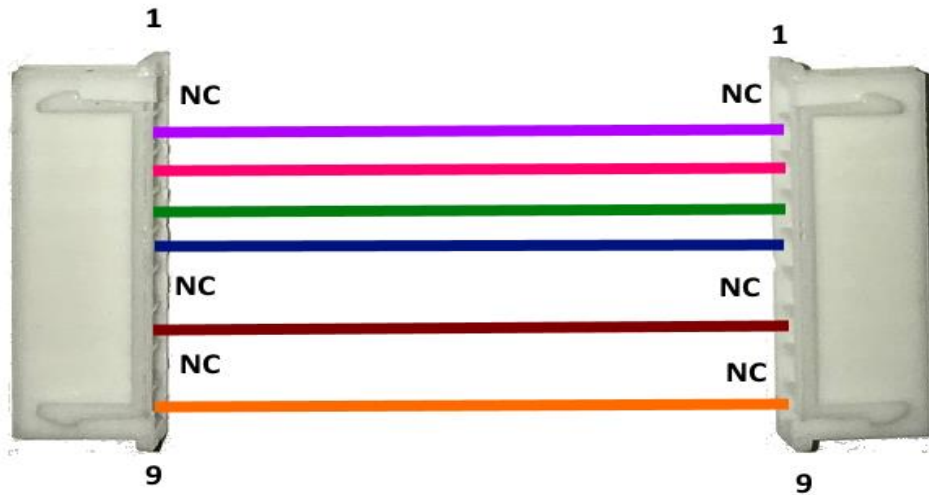

Figure 4 9-pin female to female JST wiring
10. The 9 pin female to female JST connector should connect straight from SD DDP PCB to the ADAM DDP pins (J10 for DDP drive 1 or J12 for DDP drive 2) as illustrated in Figure 4.